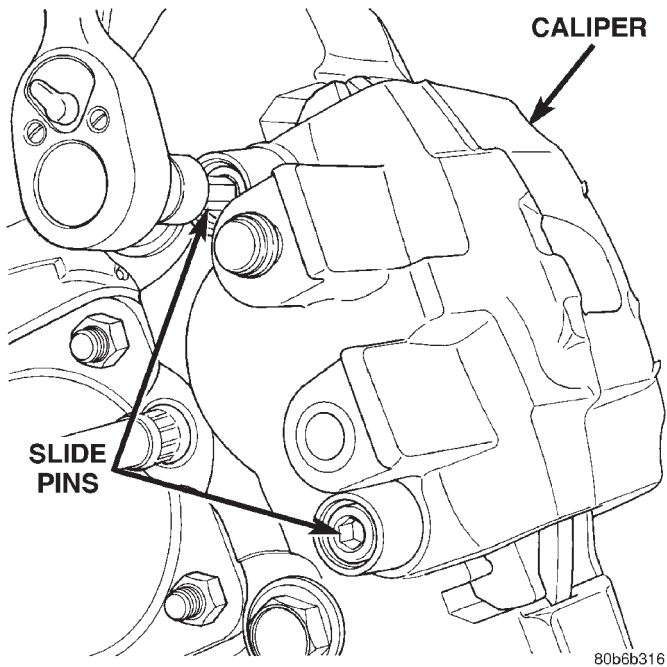

Fig. 35 Caliper Slide Pins
(7) Remove the caliper slide pin bushing caps and remove the slide pins (Fig. 35).